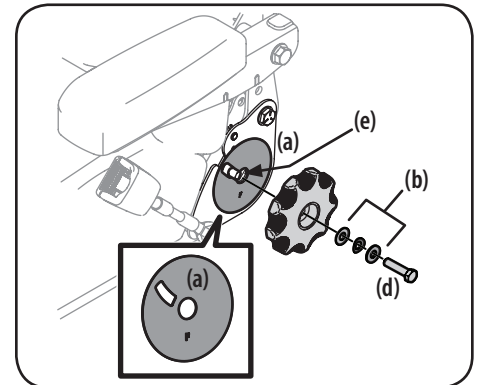

Figure 2-11
- Remove the seat tilt knob assembly from the bag and install as shown in Figure 2-11.
NOTE: Be sure to orient the recliner bearing plate (a) and install the washers (b) as shown in Figure 2-11. The thicker washer is on the outside.
The seat can be adjusted forward and backward, the armrests can be adjusted up and down (700 and 900 series), the mechanical suspension mechanism weight/ride adjustment controls for operators in the 100 to 280 lb. weight range. Turn the knob on the front of the seat clockwise to increase the weight capacity and counter-clockwise to decrease. See Figure 2-11.
The mechanical suspension mechanism (500 and 700 series) incorporates weight/ride adjustment controls for operators in the 100 to 280 lb. weight range. Turn the knob on the front of the seat clockwise to increase the weight capacity and counter-clockwise to decrease. See Figure 2-11.